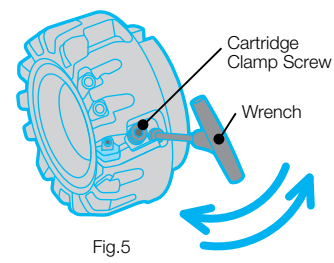

Fig.5
5. Adjust the extruding amount with adjustment screw (Fig 5).